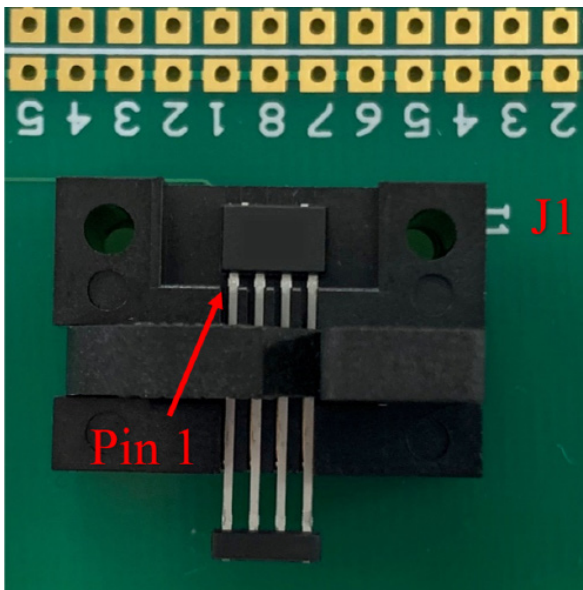

Figure 11: ACS70311 in “J1” socket
4. See Figure 11 showing the ACS70311 in “J1” socket. Proceed to Using the Programmer section below.